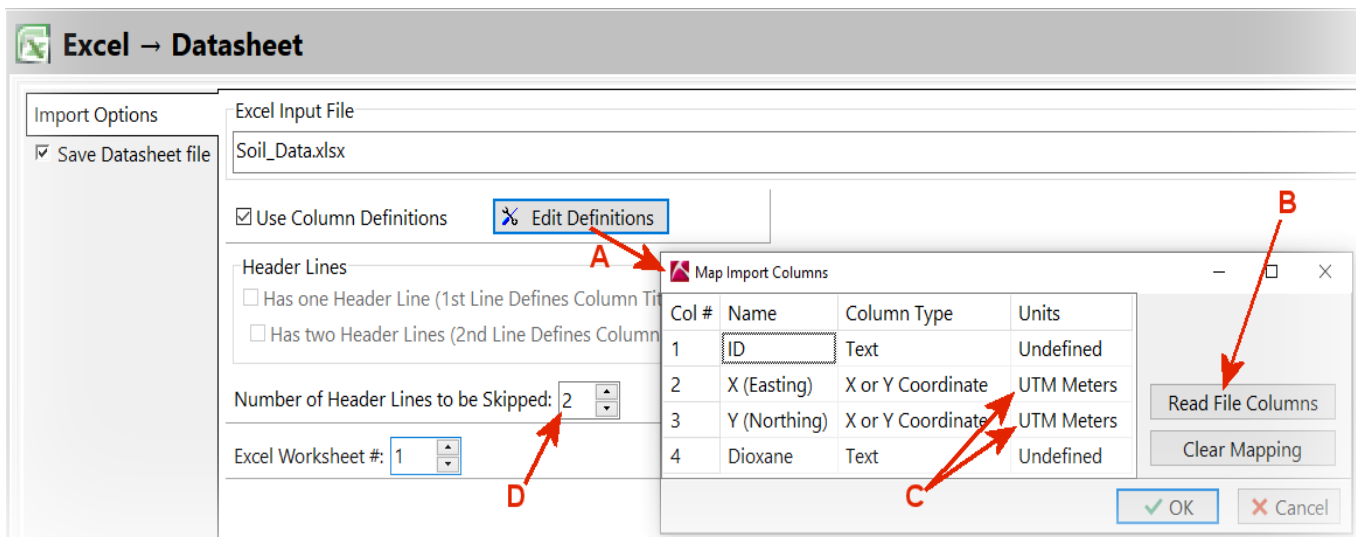

Figure 11
- The *Excel -> Datasheet* menu will now be displayed (Figure 11).
- Click on the "Edit Definitions" button (A). This will display the "Map Import Columns" dialog.
- Select the "Read File Columns" option (B) to populate the table with the column titles from the Excel file.
- Select the appropriate *Column Types* and *Units* (C) for each entry.
- Set the number of "Header Lines to be Skipped" to 2 (D).